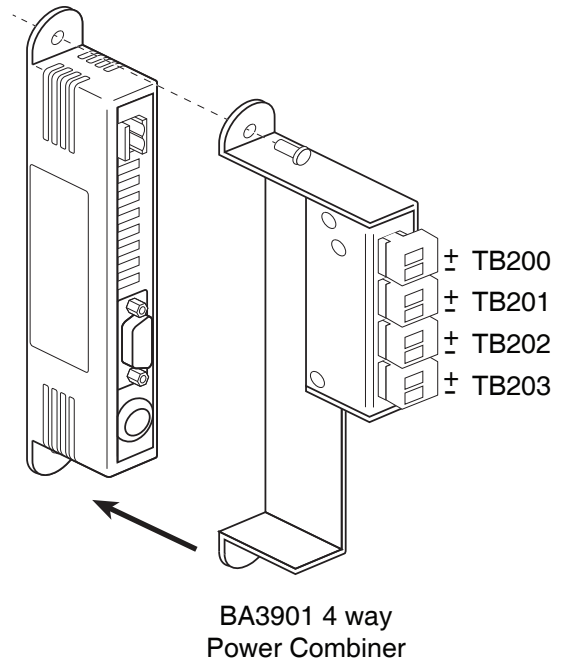

Fig 1 Assembly of 4 way Power Combiner and CPU module
The BA3901 4 way Power Terminal Accessory may be fitted to any certified Pageant BA3200 series CPU module as shown in Fig 1.
2. Carefully slide the BA3901 4 way Power Terminal over the rear of the Pageant BA3200 series CPU plug-in module as shown in Fig 1.
4. Carefully insert the CPU and 4 way Power Terminal assembly onto the 'C' socket at the rear of a BA3101 Operator Display. When correctly positioned secure the assembly by tightening the two module fixing screws which pass through both parts of the assembly as shown in Fig 1.